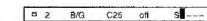

Fig. 23
- Select a letter or number with $\Delta+$ or $\nabla-$ and press OK. The next element will be highlighted. Select other characters in the same way. If you want to leave an element blank, select -- and press OK. (See Fig. 23.)